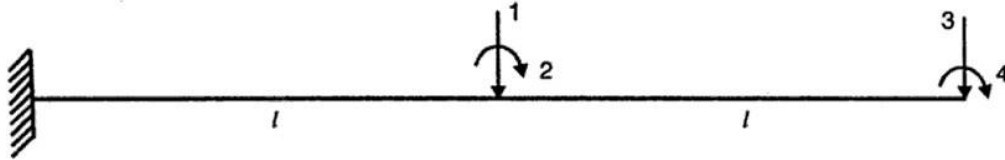

Figure 2.10
9. a) Develop the stiffness matrix of the beam as shown in Figure 2.10 with respect to the 4 degree of freedom given